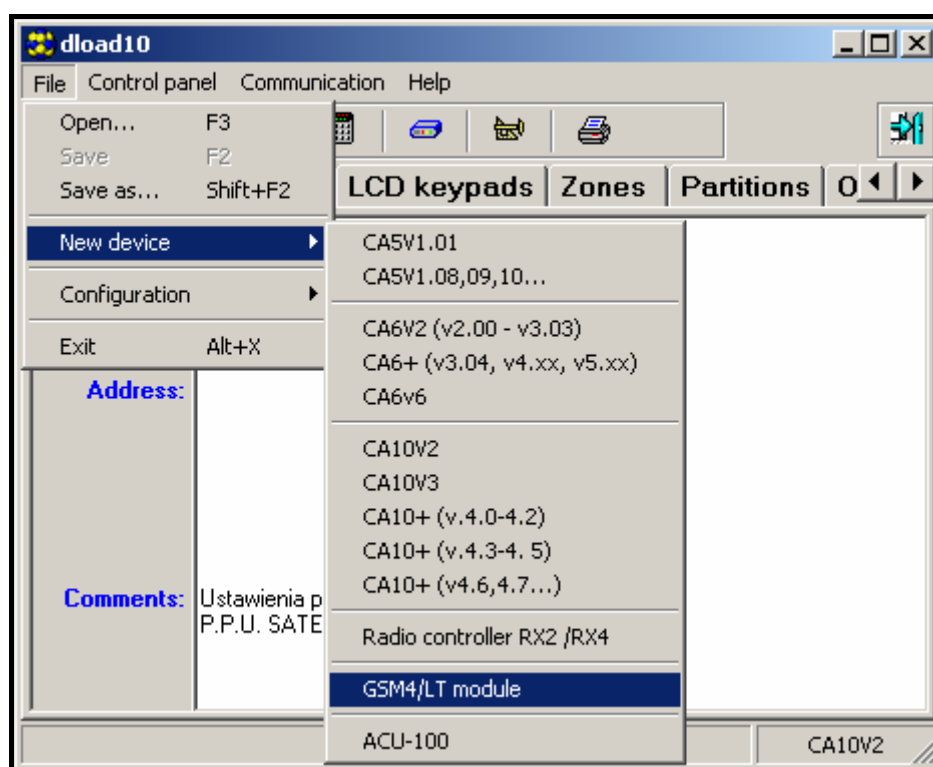

Figure 7.
1. Open the window with module data by selecting **File→New device→GSM4/LT module** in the program menu (see: figure 7).